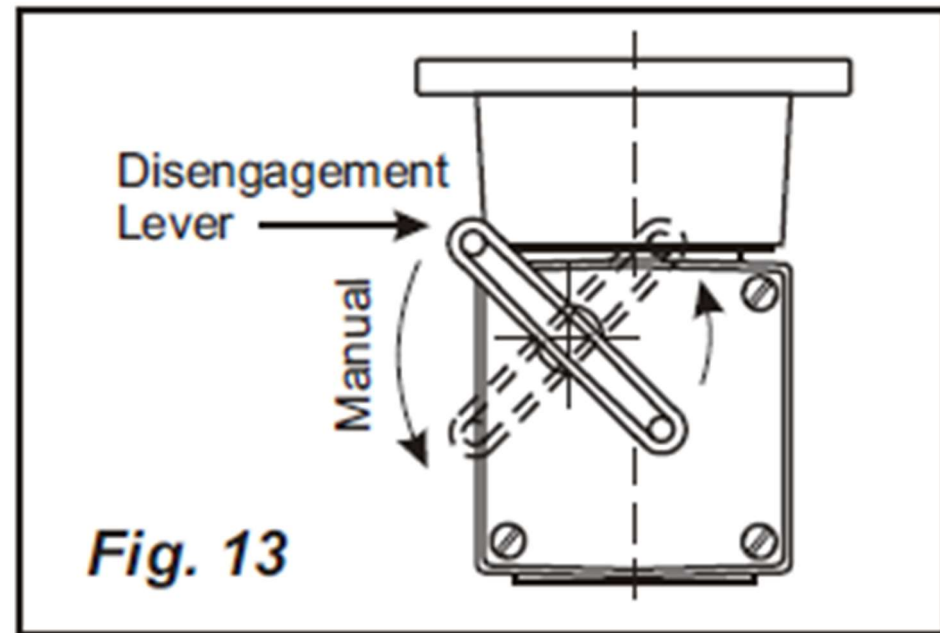

Fig. 13
3. Reach out for the disengagement lever and turn the lever anticlockwise (see *Fig. 13* below). Slightly push gate manually in either direction in order for the clutch to get perfectly engaged.